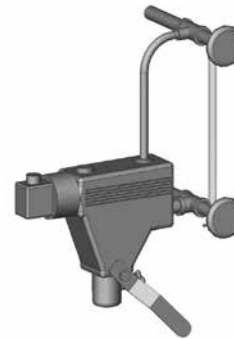

Figure 6.3: Gauge Glass & Low Water Cut-Off Installation
- Float Type:** Install the float type low water cut-off (if provided) in conjunction with the gauge glass as shown in Figure 6.3.
- Install the gauge glass provided into two 1/2" tappings on the right side of the boiler. If a float type low water cut-off is used, it will be piped into these same fittings. See Figure 6.3 and 6.4 for examples of this installation.